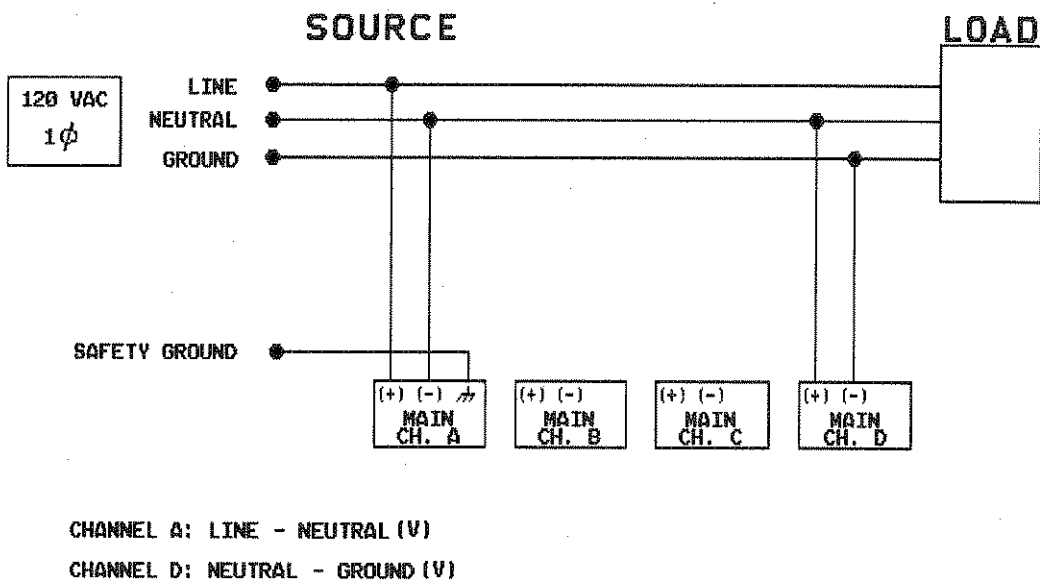
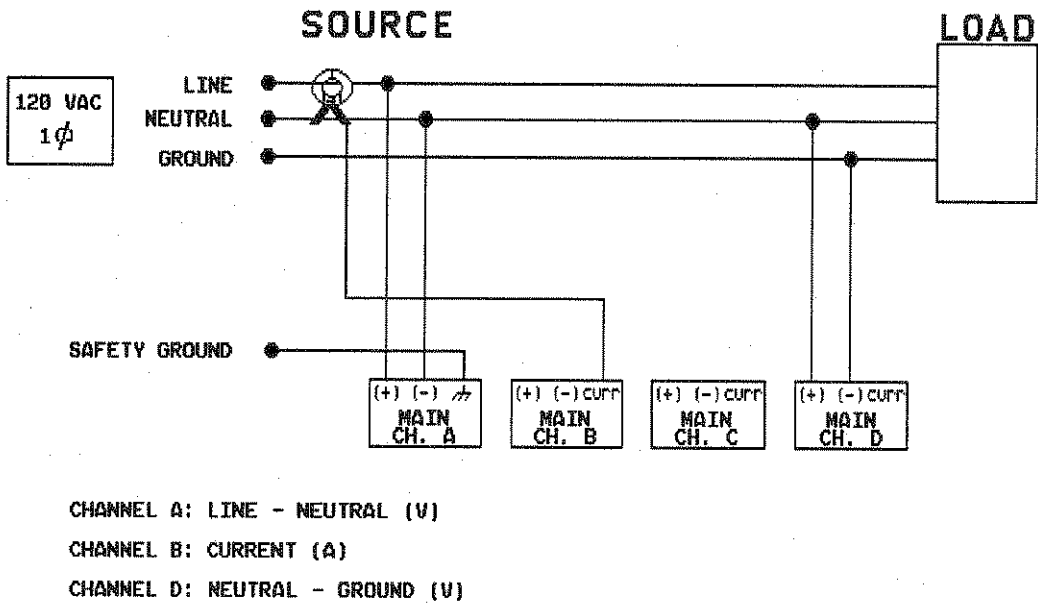

FIGURE 2-2. 120V AC SINGLE PHASE (1 $\phi$ ) CONNECTIONS
FIGURE 2-3. 120V AC SINGLE PHASE (1 $\phi$ ) CONNECTIONS WITH CURRENT INPUT (656A ONLY)
For the 656A, connect the applicable voltage lines in your Measurement Cable Kit (114012-G1) to the "+" and "-" input jacks. **Note:** Refer to the illustrations under Subsection 2.4.5.3 (Figures 2-2 through 2-10) for the connection guidelines.
- The 656 can monitor Line-to-Neutral and Neutral-to-Ground voltage in a 120V ac single phase (1 $\phi$ ) system (illustrated in Figure 2-2). This application requires two Main channels (A and D in the illustration). With the 656A in such an application, one of the two remaining channels could be used to monitor current (illustrated in Figure 2-3 using channel B).